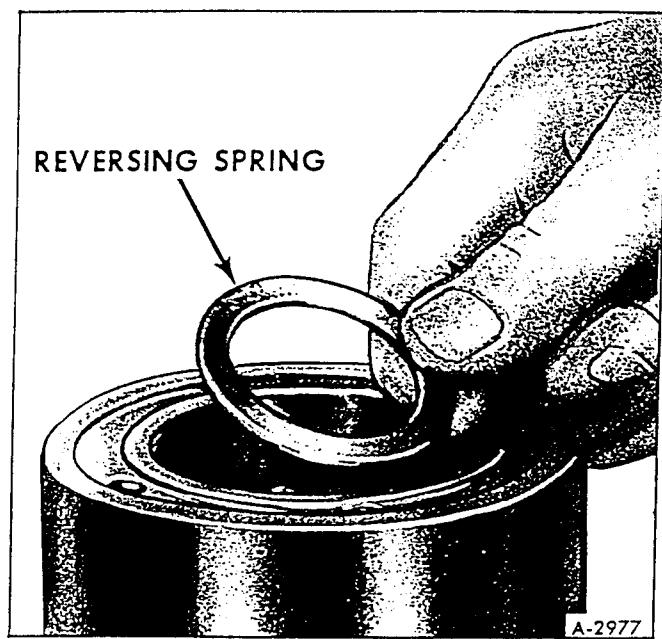

Figure 24 – Removing Reversing Spring
3. Lift reversing spring from acutating valve (fig. 24).